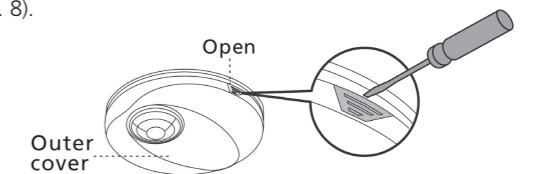

Fig. 6
- 3.3.1** Insert large flat blade screwdriver into the groove as shown each side in turn and twist (see Fig. 6) to remove outer cover.